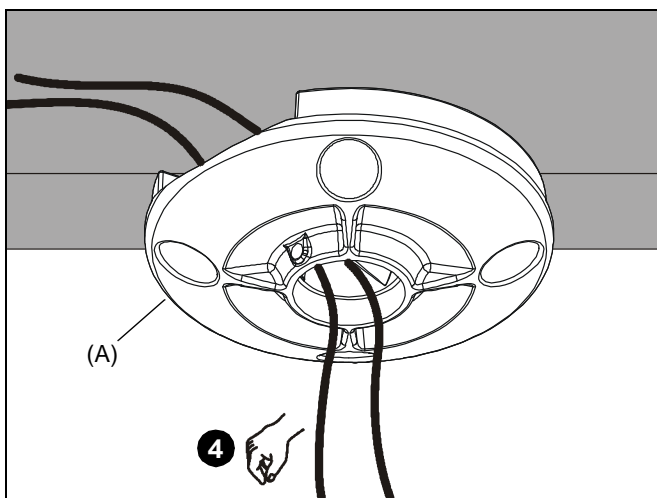

Figure 3
- Route cables through channel in plate (A) (See Figure 3).